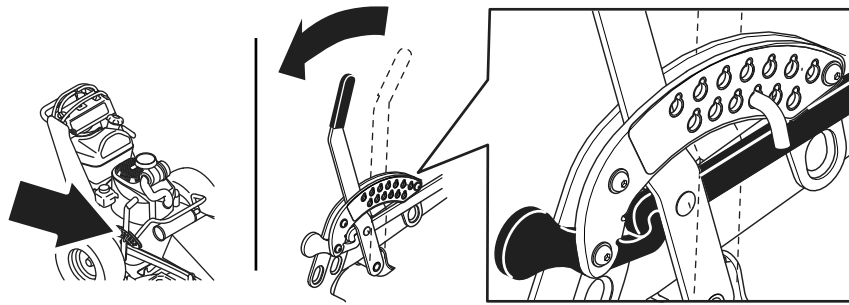

Figure 1
1. Move the height-of-cut lever to the TRANSPORT position (Figure 1).